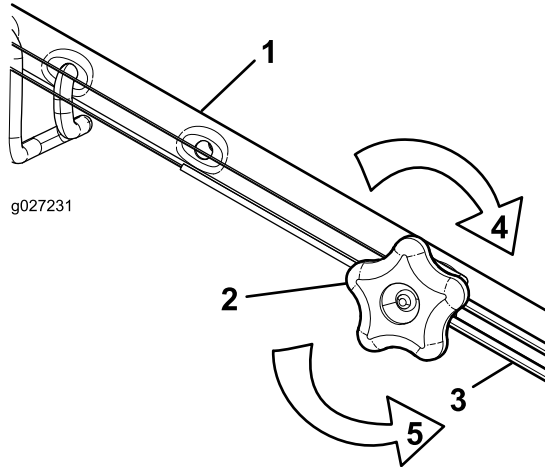

Figure 34
1. Turn the adjustment knob counterclockwise to loosen the cable adjustment (Figure 34).
2. Adjust the tension on the cable (Figure 34) by pulling it back or pushing it forward and holding that position.